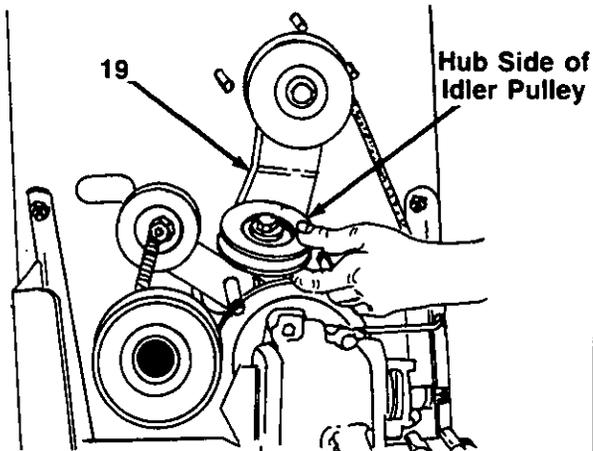

FIGURE 10.
12. Upon reassembly of idler pulley, be certain the hub side of idler goes against the idler bracket. See figure 10.